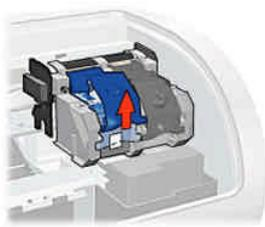

Figure 1
- c. Lift the print cartridge latch to the open position (Fig. 1).